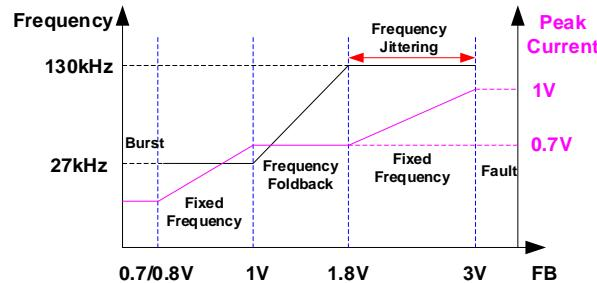

Figure 3: f_{SW} and I_{PEAK} (V_{CS}) vs. V_{FB}
A controlled current source (fixed at $5.4\mu\text{A}$ when $V_{FB} = 2\text{V}$) charges the internal oscillator capacitor (C_{osc}). Comparing the capacitor voltage to the TIMER pin voltage determines f_{SW} . Frequency jittering is accomplished by varying V_{TIMER} between 3.2V and 2.8V (see Figure 3). The frequency jitter period (t_{JITTER}) can be determined with Equation (1):
When the load decreases to a set level ($1\text{V} < V_{FB} < 1.8\text{V}$), the controller freezes I_{PEAK} (as measured on the CS pin, typically 0.7V) while reducing f_{SW} to 27kHz to reduce switching losses. If the load continues to decrease, I_{PEAK} decreases with the 27kHz fixed frequency to avoid audible noise. Figure 3 shows the relationship between f_{SW} and the feedback voltage (V_{FB}), as well as between I_{PEAK} (V_{CS}) and V_{FB} .